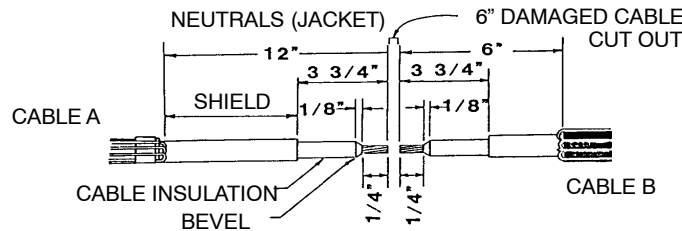

FIGURE 1
- There must be an 8 inch overlap of the cables, Figure 1. Wipe clean 2 feet each side.
1. There must be an 8 inch overlap of the cables, Figure 1. Wipe clean 2 feet each side.
2. Prepare cables as shown in Figure 1. If cable is jacketed, remove jacket to expose neutral wires. For single phase cables train the concentric wires in two bundles each. For three phase cables train the concentric wires in one 6 wire bundle. Place the shrinkable sleeve on one of the cables.